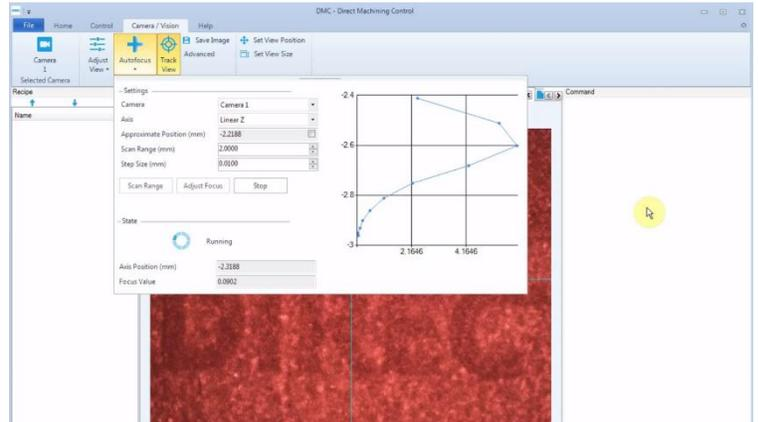

Figure 3. Camera view is used to find camera and laser focus position automatically.
4. User is using coaxial camera through galvo scanners. Camera and laser focus height matches almost perfectly. So DMC camera Autofocus tool is used to find laser focus position (Figure 3). A special tool was developed to create height maps by measuring focus position on the wafer in various positions. After that, fabrication recipe is automatically transformed to match the height differences on the sample. Alternatively a Keyence height sensor might be used for better measurement accuracy.